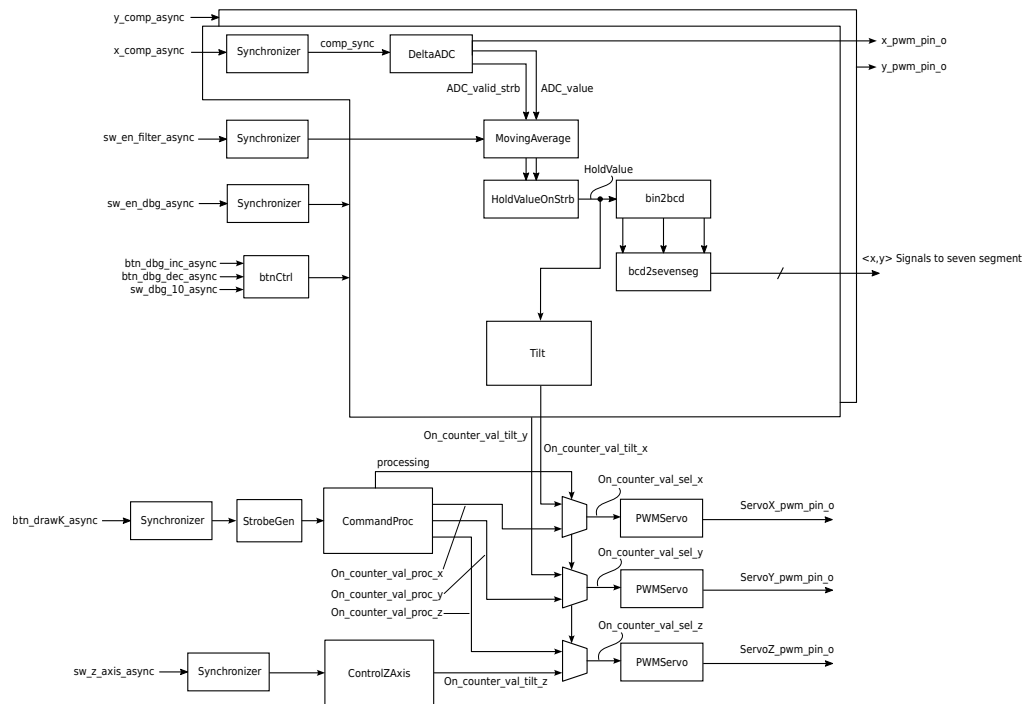

Figure 1: Overview for a single axis of the final design
It is time to put everything together. So far you should have implemented all blocks (except *ControlZAxis*) to create a design similar to Fig. 1. In comparison to the exercise sheet 6, the moving average filter (with enable switch) was added to the data path. Furthermore, the command processor from exercise sheet 8 is also included in the final design. If a command is currently processed, due to a button press, the *processing* signal controls the three multiplexers to disable the manual control from the tilt sensor.
- Add an enable switch for the debug mode from sheet 9. Both modes (normal operation and debug mode) should be implemented into one design! This is not shown in Fig. 1. The module *btnCtrl* should control the debug mode of both the x- and y-axis.